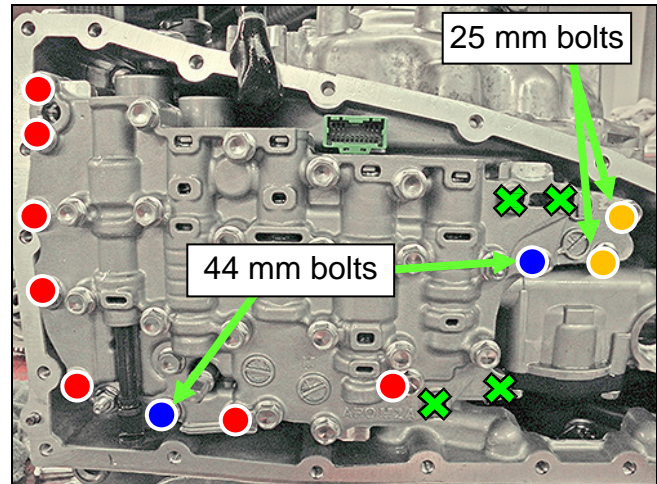
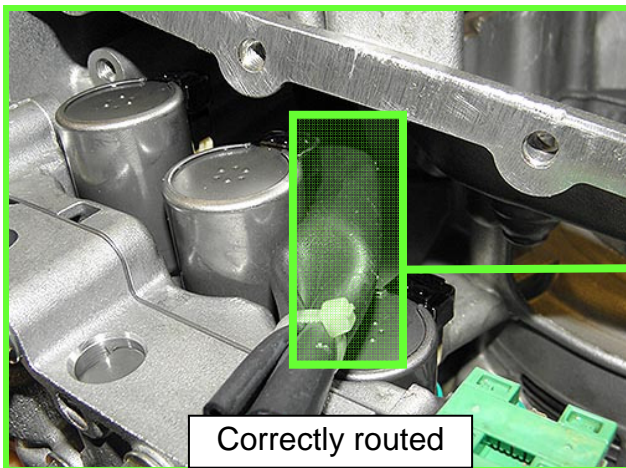

Figure 3
Figure 4
5. Install the Control Valve with eleven (11) mounting bolts (Figure 3).
**IMPORTANT:** Leave Four (4)  bolt holes blank at this step.
**CAUTION:** Make sure the wiring harness does not get pinched (see Figures 4 and 5 for correct routing).